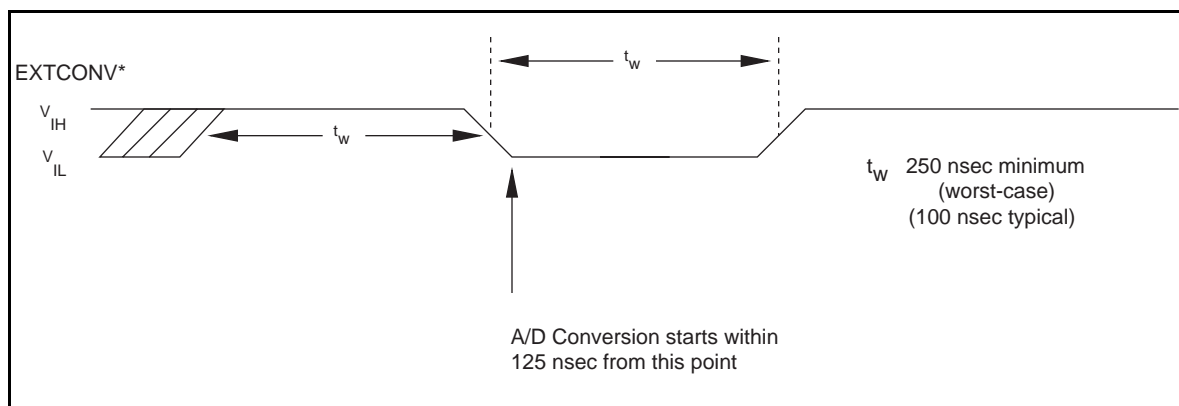

Figure 2-10. EXTCONV* Signal Timing
Counter 0 on the 8253(A) Counter/Timer (referred to as A0) is used as a sample-interval counter in timed A/D conversions. Counter 1 on the 8253(B) Counter/Timer (referred to as A1) is used as a sample counter in conjunction with counter 0 for data acquisition. These counters are not available for general use. In addition to counter A0, EXTCONV* can be used to externally time conversions. See Chapter 4, *Register-Level Programming*, for the programming sequence needed to enable this input. Figure 2-10 shows the timing requirements for the EXTCONV* input. An A/D conversion is initiated by a falling edge on the EXTCONV*. If EXTCONV* stays low more than 12 μ sec, the data from this conversion is not latched into the FIFO memory until the following rising edge on EXTCONV*. If EXTCONV* stays low less than 12 μ sec, the data from this conversion is latched into the FIFO memory after 12 μ sec.